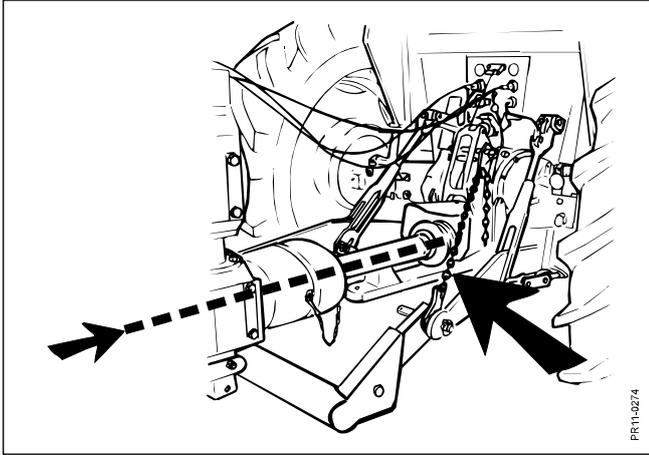

Fig. 2-1
**Fig. 2-1** The **GMS/GCS** machines are connected to the lower links of the tractor. The dowels are intended for category II. Bushings can be supplied for category III. The machine can be delivered with different types of drawbars. The D-drawbar with swivel gearbox up front (considered to be standard) and B-drawbar with direct PTO transmission.